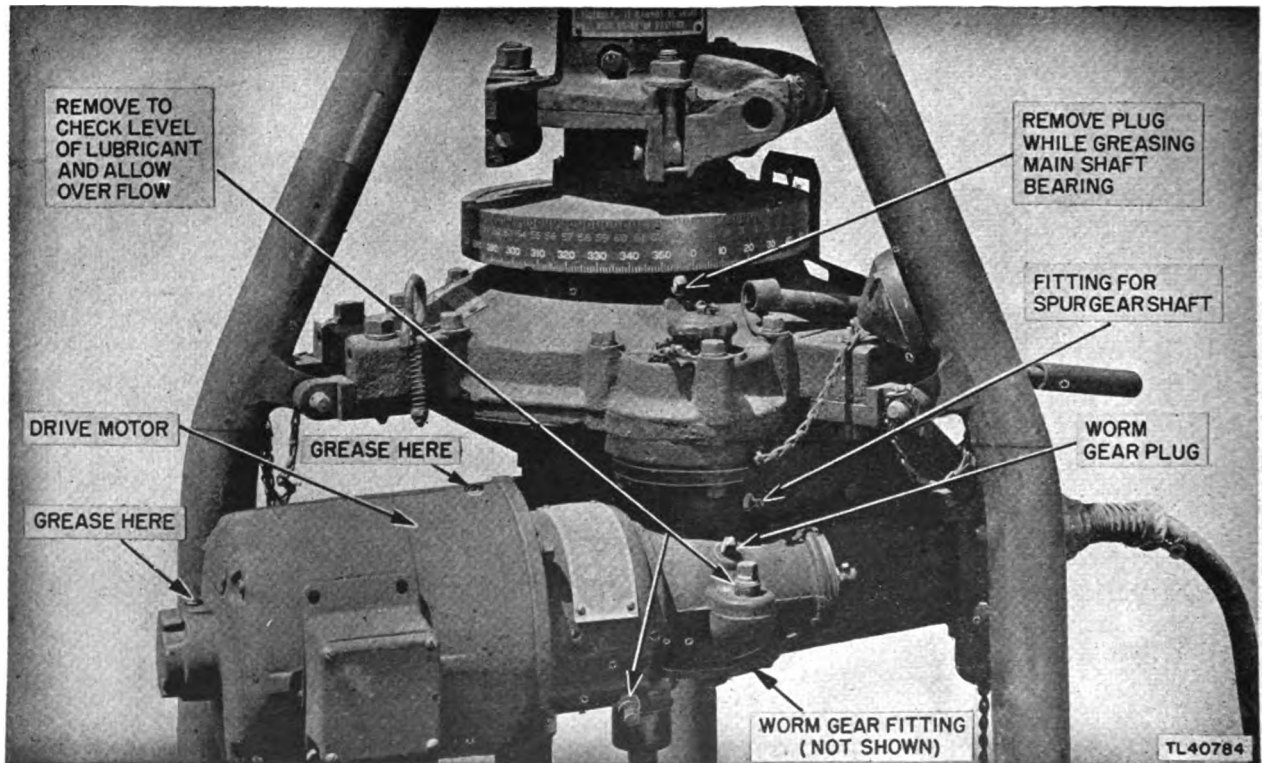

Figure 46. Pedestal FT-480-A, lubrication points.
*Note:* The grease fitting located under the worm gear housing is not shown on figure 46. The grease fitting on the upper mast bearing is not shown. It is located under the flared plate at the mast junction.
(6) A few drops of OE 10 oil on the screw threads